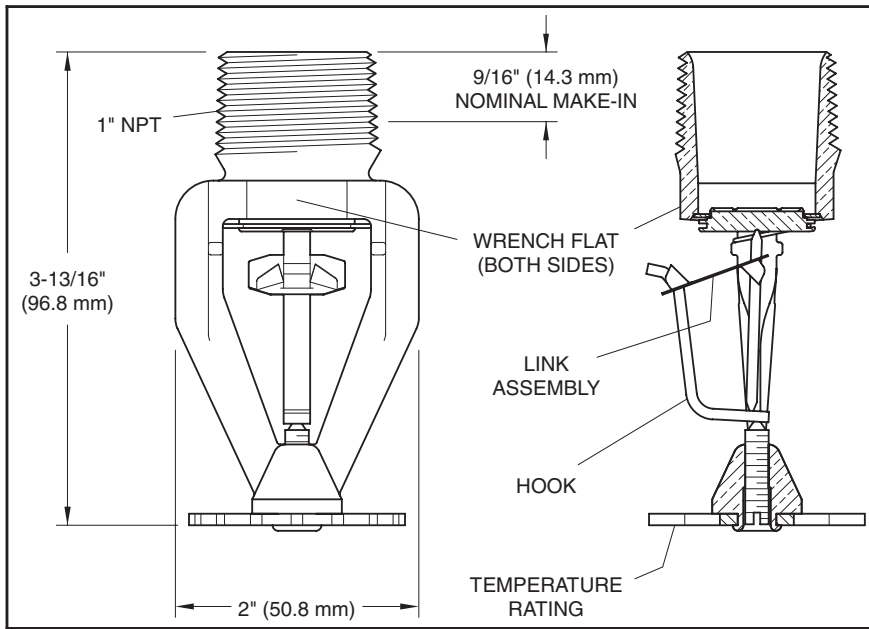

Figure 1
The Central Model K25-1 Sprinklers (Ref. Figure 1) are “Early Suppression Fast Response Sprinklers” having a nominal K-factor of 25.2. They are suppression mode sprinklers, and their use is especially advantageous as a means of eliminating the use of in-rack sprinklers, when protecting high-piled storage.
Step 4. After installation, inspect the Link Assembly of each K25-1 Sprinkler for damage. In particular, verify that the Link Assembly and Hook are positioned as illustrated in Figure 1, and that the Link Assembly has not been bent, creased, or forced out of its normal position in any way.